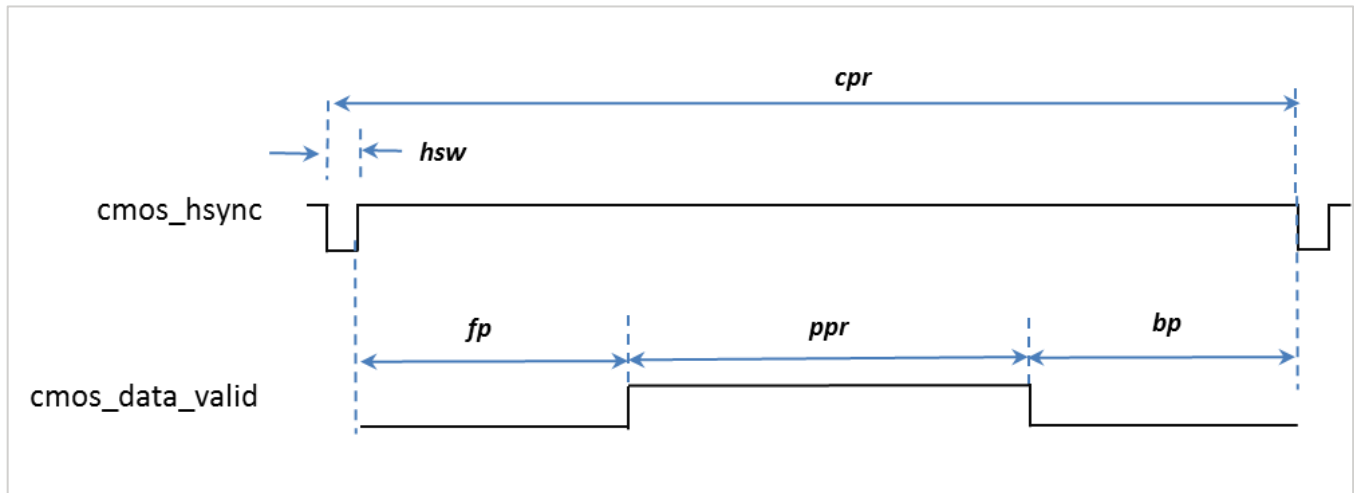

FIGURE 59: LINE TIMING OF THE CMOS OUTPUT CHANNEL
3. Each row period consists of four distinct sections, as depicted in Figure 59: